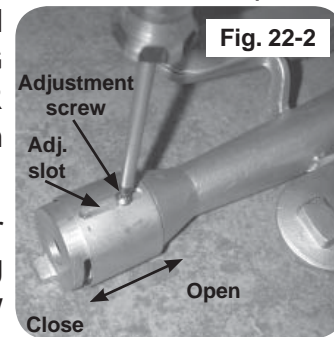

Fig. 22-2
2. Adjust the air shutter opening by loosening the adjustment screw with a screwdriver, then sliding the air shutter backward or forward to open or close the air shutter opening (see Fig. 22-2).